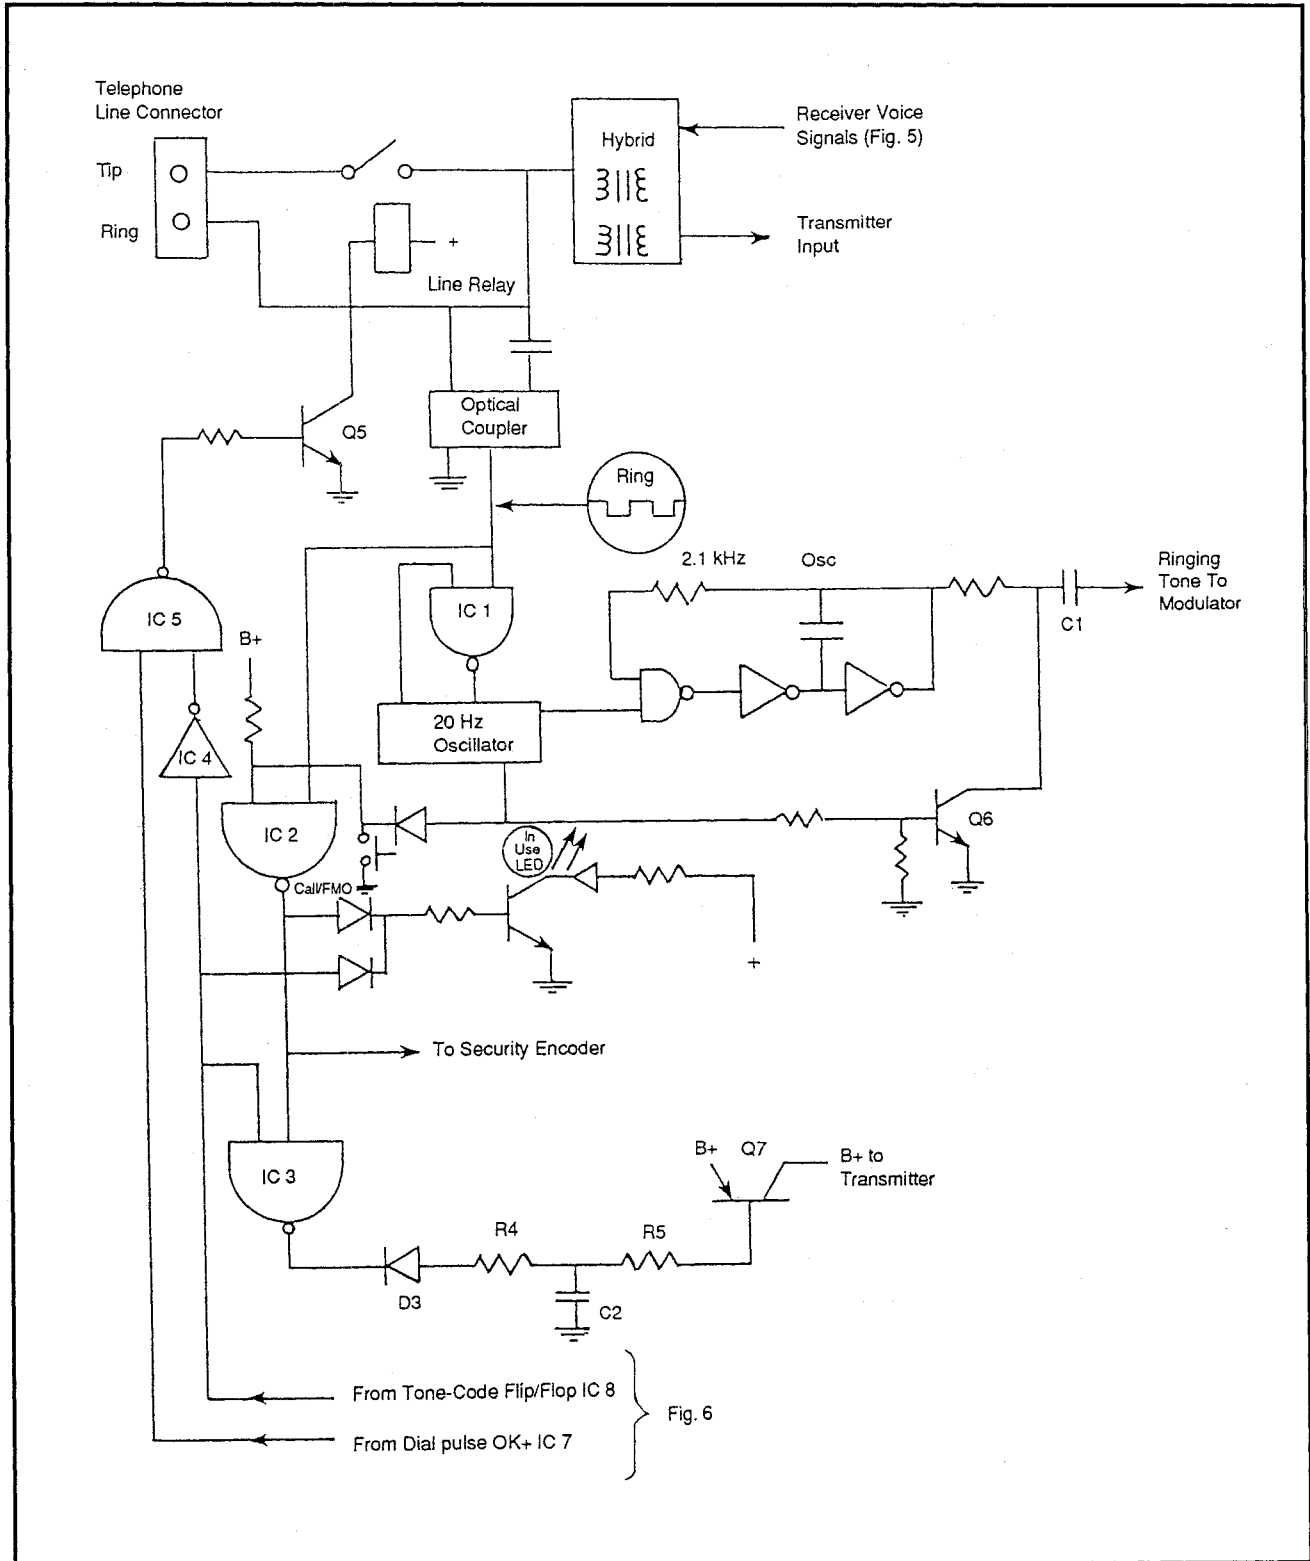

Figure 3: Incoming ring detector and DC control
**Hybrid Transformer** Interface to the telephone line is accomplished by using a hybrid, as shown in Figure 3. This hybrid consists of a specially wound transformer that can handle the line current without saturating the core, and still provide isolation between the talk and receive paths. The transformer must be able to pass frequencies from between 300 and 3500 Hz. The normal impedance of the hybrid transformer is 600  $\Omega$ .
Note in Figure 3 the relay contacts between the hybrid and the telephone line. This is the "hookswitch." When the handset is turned off, placed in the base unit for charging, or when the base unit is disconnected from the incoming 120 VAC supply, power to the relay is removed. The relay contacts open and the telephone line is disconnected.
This same relay handles other important operations. When the "flash" is sent (such as to switch lines during call waiting), this relay is momentarily opened. If the handset is switched to send pulse signals for dialing instead of tone, the relay pulses. (This is done by the base detecting a pilot tone sent from the handset. If this pilot tone is absent, the tone/pulse flip-flop shown in Figure 6 is reset.) The relay driver is transistor Q5. When in the off state, it releases the line relay. Incoming calls bring the 90 V 20 Hz ring signal. Figure 3 shows the circuitry used to detect this, and to send the ring to the handset.
The flip-flop is set and a signal is sent to the circuitry (see Figure 3) to turn on the “in use” LED indicator. The transmitter is powered and the line relay is closed due to being pulled by Q5. (Q5 is turned on when both inputs to IC-5 are low.) The setting of the flip-flop results in a high level into the inverter IC-4. This in turn provides one of the lows being fed into IC-5. (The other low input is provided directly from the tone detector, IC-7, when the tone is present.)